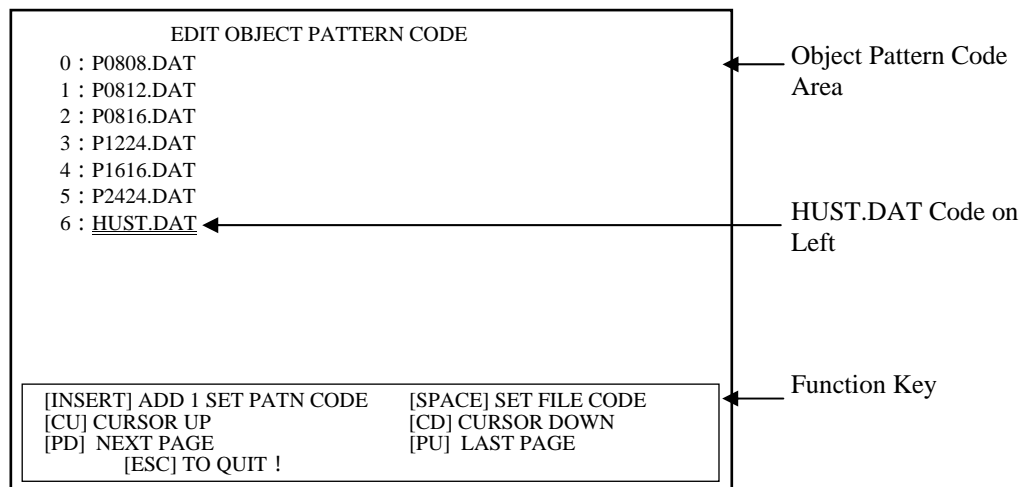

Fig 12-10 “Object Pattern Code” area for Code Editing
Step 3: On main function page, press [F3] key to get in “edit object pattern code” area. Press SPACE bar to bring up the code corresponding to the cursor location, then type in the desired “*.DAT” file name (HUST in this case) as in Fig 12-10.